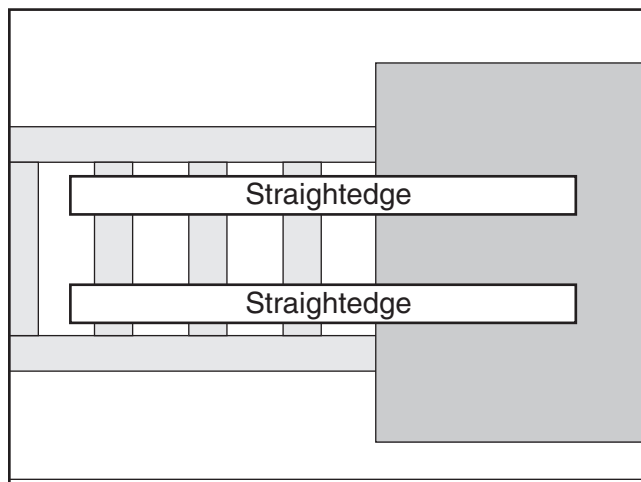

Figure 19. Straightedge positions for checking and adjusting front and back of roller table.
5. Fine tune the stand height by checking and adjusting the sides of the roller tables (see **Figure 19**) until the both sides of the rollers are even with the table.